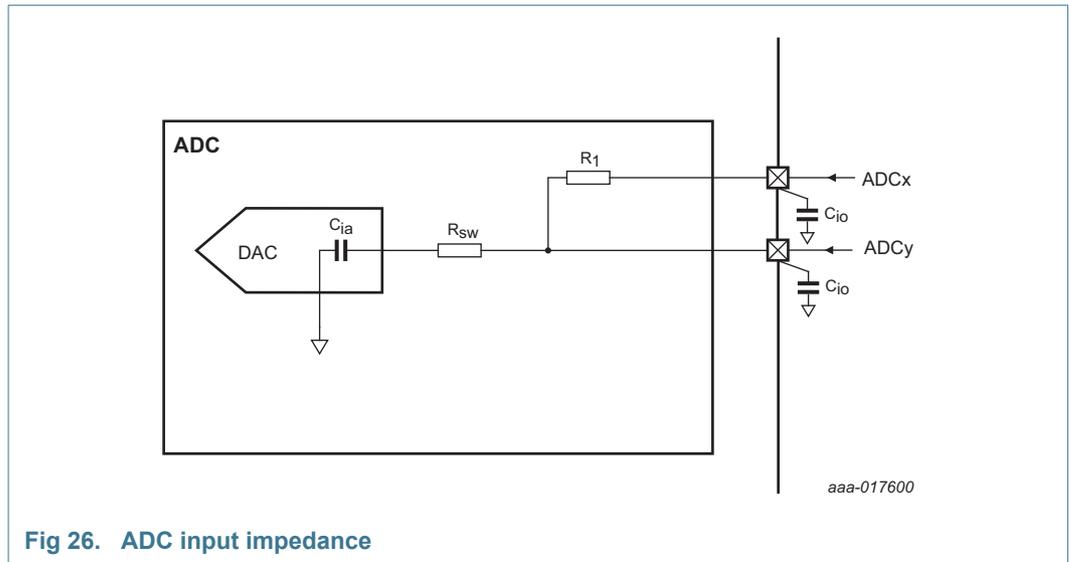

Fig 26. ADC input impedance
- [10] Input impedance  $Z_i$  is inversely proportional to the sampling frequency and the total input capacity including  $C_{ia}$  and  $C_{io}$ :  $Z_i \propto 1 / (f_s \times C_i)$ . See Table 20 for  $C_{io}$ . See Figure 26.
- (1) Example of an actual transfer curve.
- (2) The ideal transfer curve.
- (3) Differential linearity error ( $E_D$ ).
- (4) Integral non-linearity ( $E_{L(adj)}$ ).
- (5) Center of a step of the actual transfer curve.
Figure 26 shows the ADC input impedance. In this figure: